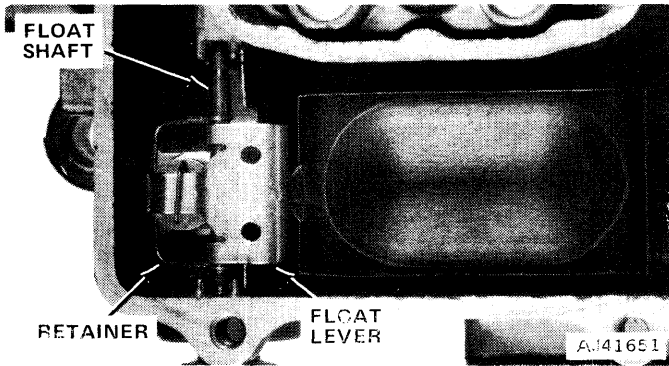

Fig. 4-73 Float Assembly
(13) Pry float shaft retainer from fuel inlet seat (fig. 4-73). Remove float, float shaft retainer, and fuel inlet needle assembly. Remove retainer and float shaft from float lever.